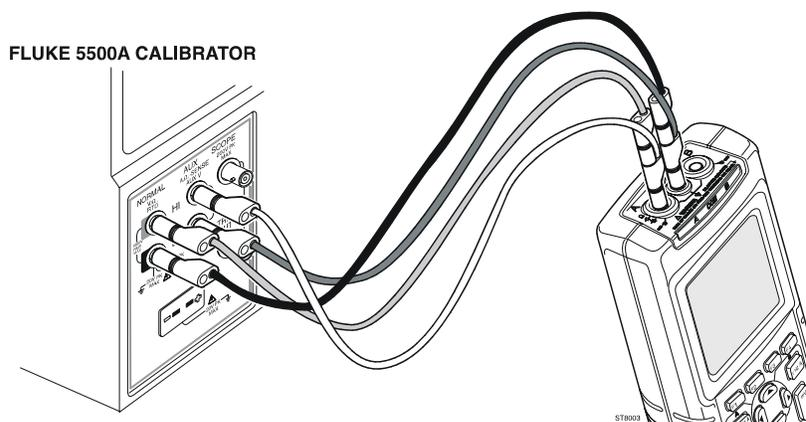

Figure 3-9. Test Tool Input A to 5500A Normal Output 4-Wire
- Connect the test tool to the 5500A as shown in Figure 3-9.
1. Connect the test tool to the 5500A as for the previous test (see Figure 3-9).
1. Connect the test tool to the 5500A as for the previous test (see Figure 3-9). Ensure that the 5500A is in Standby.
1. Connect the test tool to the VIDEO output of the TV Signal Generator as shown in Figure 3-9.